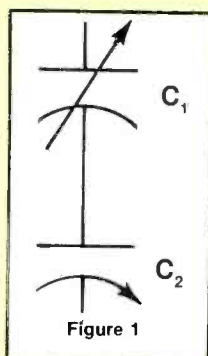

Figure 1
2. Capacitor C_1 in Figure 1 is used for tuning an oscillator. Capacitor C_2 is used for making small changes in the range of frequencies set by C_1 . Capacitor C_2 is called a _____.
An ac voltage sag is generally defined as a decrease of 10-35 percent below the normal line voltage for a period of 16ms to 30 seconds. A surge, on the other hand, is a voltage increase of 10 to 35 percent above normal, lasting 16ms to 30 seconds. (See Figure 1.) Sags and surges rarely cause problems for home electronic equipment. Transients, however, are another story.
Figure 1. Voltage sags and surges can garble data and stress hardware components. Momentary power interruptions can cause a complete loss of volatile memory and severely stress hardware components. Transient disturbances can cause a wide variety of operational problems, from logic errors to complete system failure.